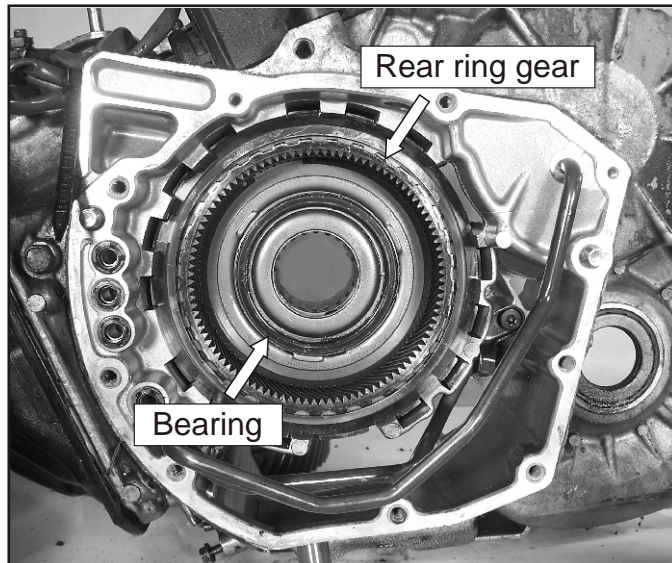

Figure 78
27. Remove the rear ring gear bearing as shown in Figure 78.